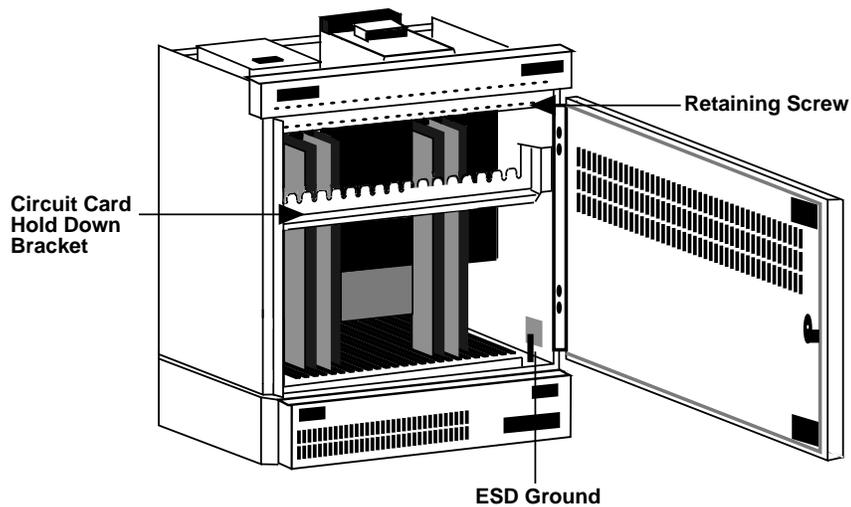

Figure 2-6. MAP/100C – Front Door Open
3. Use the indentations around the slide latches to swing the door open to the right. Open the door as wide as its hinges will allow. See Figure 2-6.